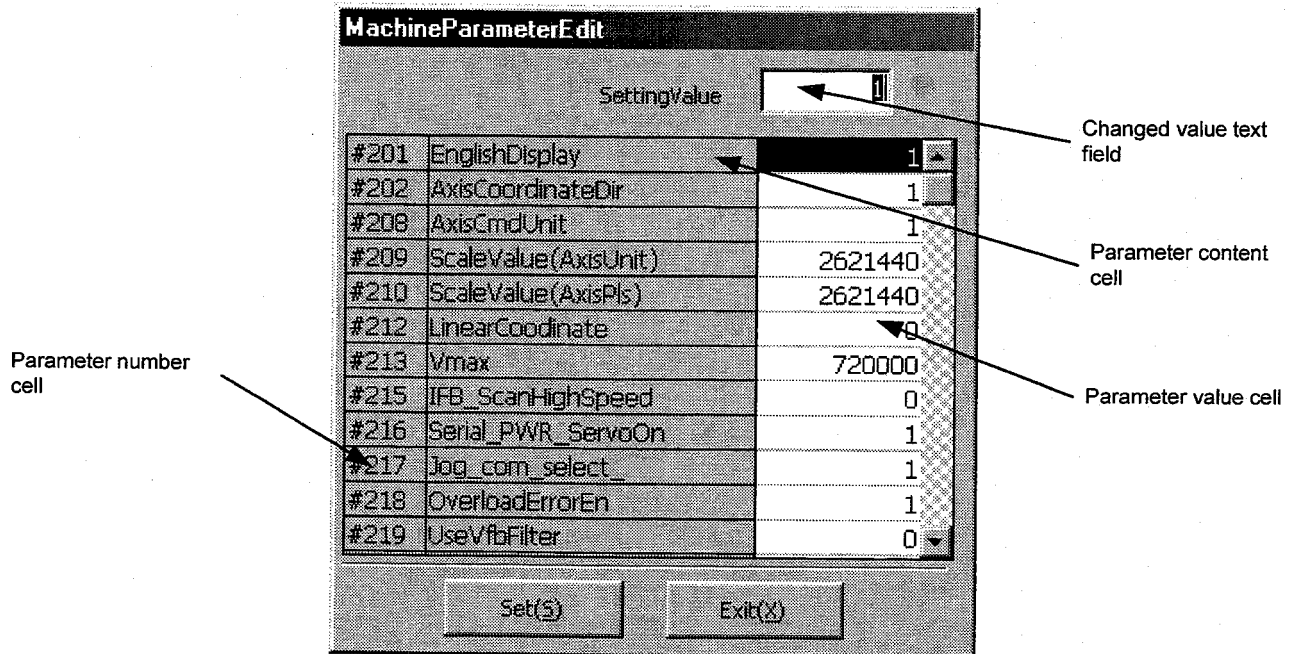

Figure 7.32 "MachineParameterEdit" dialog box
(1) Editing machine parameters
Click "*Machine Parameter Edit (M)*" in the "Parameter Manager" dialog box to display the "MachineParameterEdit" dialog box (see Figure 7.32). If the connection with the driver is established, the current values of the machine parameters are read and can be edited.